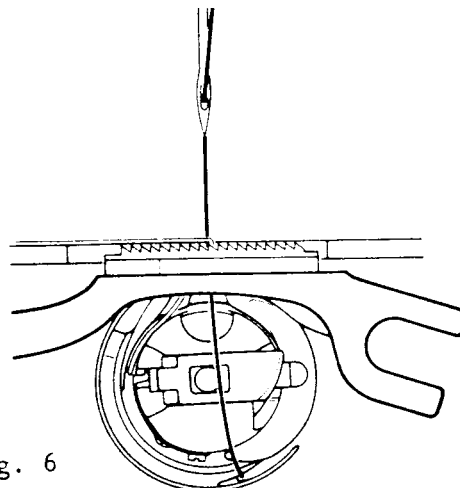

Fig. 6
4. Just as the needle thread is cast off the sewing hook (Fig. 6), the check spring should make a slight dip.